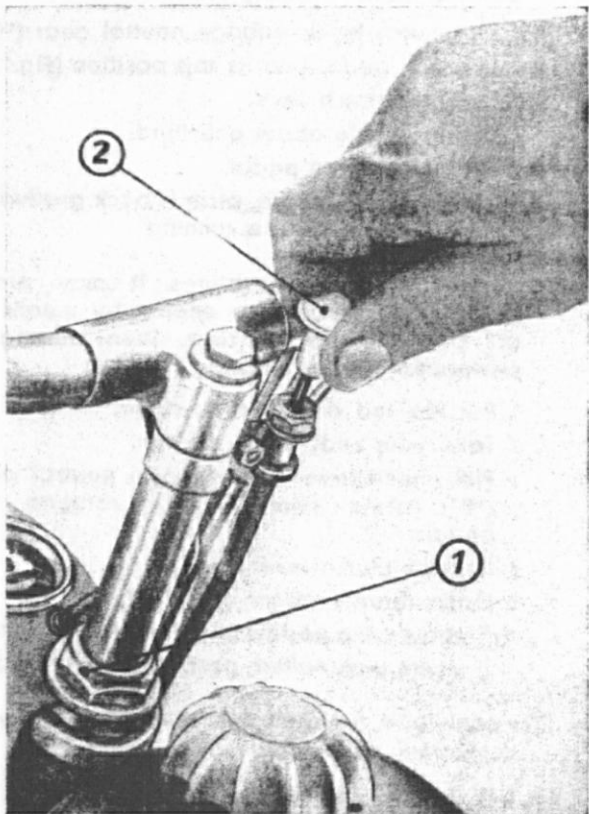

Fig. 9: Handlebar tube
- (a) Unscrew fork tube nut (Fig. 9, No. 1).
B. Pull choke button (only when starting from cold) (Fig. 9, No. 2).